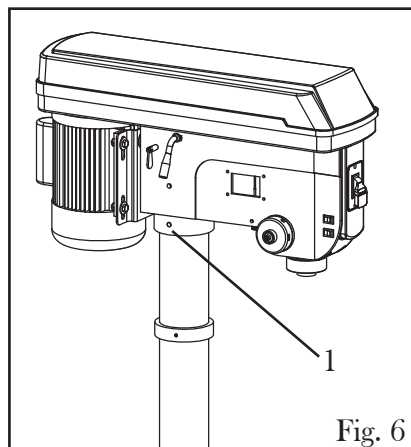

Fig. 6
6. Align the head with the base so they are parallel with one another and facing the same direction. Tighten the set screw (Fig. 6 - 1).